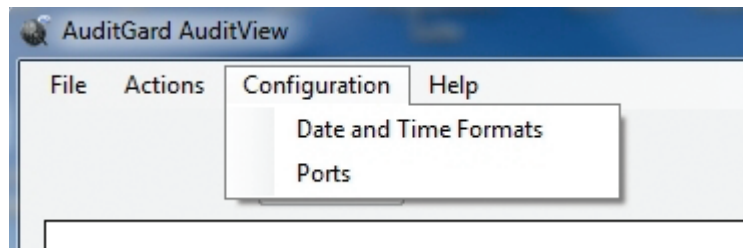

Figure 4
2. From the AuditView software select the **Configuration** menu on the Menu bar (Figure 4).
2. Select **Date and Time Formats** from the drop down menu (Figure 4). The Date and Time Format box will open in a separate window.